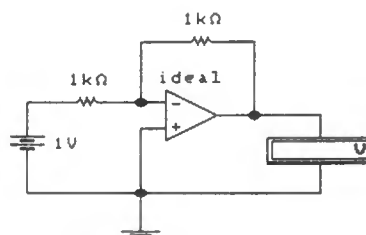

Fig. 5.8 Inverting amplifier circuit (Assignment 5.1).
1. Connect the inverting amplifier circuit shown in Fig. 5.8. Check that the values of input and feedback resistor are both $1k\Omega$ and that the input voltage (from the battery) is 1V.
8. Finally, return to the circuit of Fig. 5.8 with $V_{IN} = 1V$. Choose a value for R_F that will produce an output voltage of 10V (i.e., a voltage gain of exactly 10). Check that the circuit works and note down the value of R_F used.